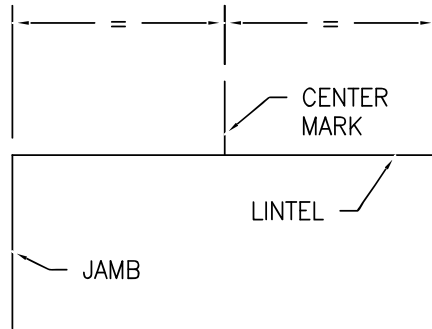

FIG. 1
1. Find and mark center of door opening (Fig. 1).